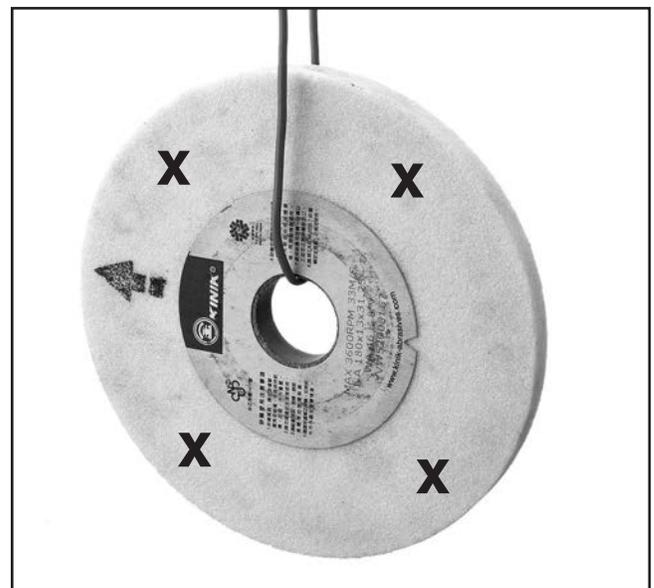

Figure 29. Ring test setup.
3. Hang wheel in air with a piece of cord or string looped through wheel bore, as shown in **Figure 29**.
4. At locations shown with an X in **Figure 29**, gently tap wheel with a light non-metallic device such as handle of a screwdriver or a wooden mallet.